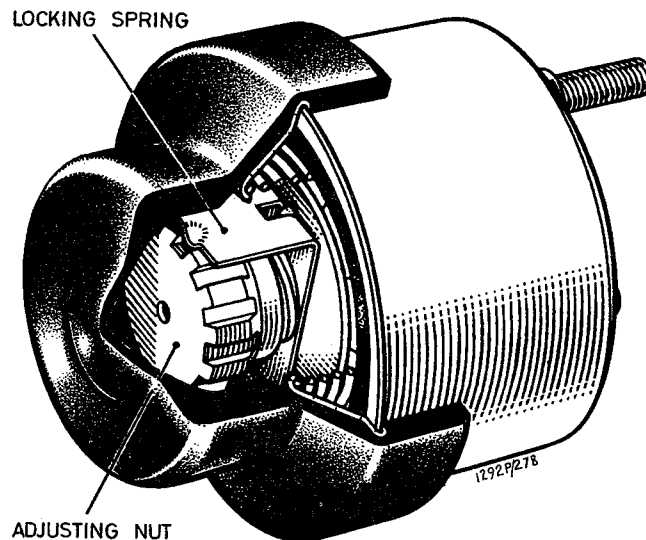

Fig. 6 Location of solenoid adjusting nut
22.2 Energise both solenoids and slacken the pilot valve adjusting nuts (ref. fig.6). Apply a pressure of between 1000 and 2000 lbf/in2. and screw down the adjusting nut of solenoid B until the ball valve of the pilot valve assembly is lifted from its seat; indicated by a drop in pressure. Raise the pressure again to between 1000 and 2000 lbf/in2 and screw down the adjusting nut of solenoid A until the ball valve of the pilot valve assembly is lifted from its seat. This will be indicated by a release of pressure from the return connection.